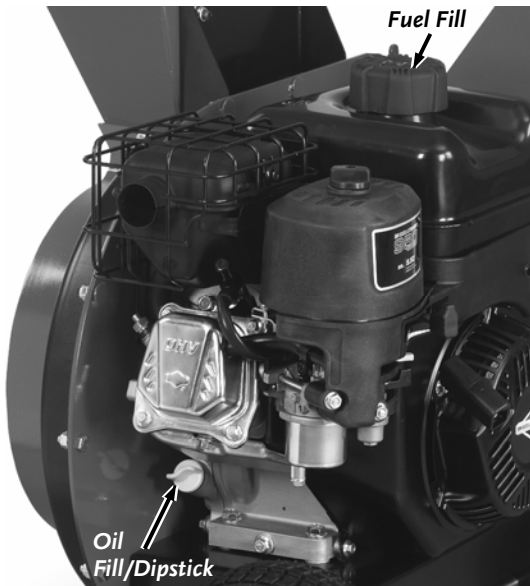

Figure 14
1. Position the machine so the Engine is level. Remove the Oil Fill/Dipstick (**Figure 14**).